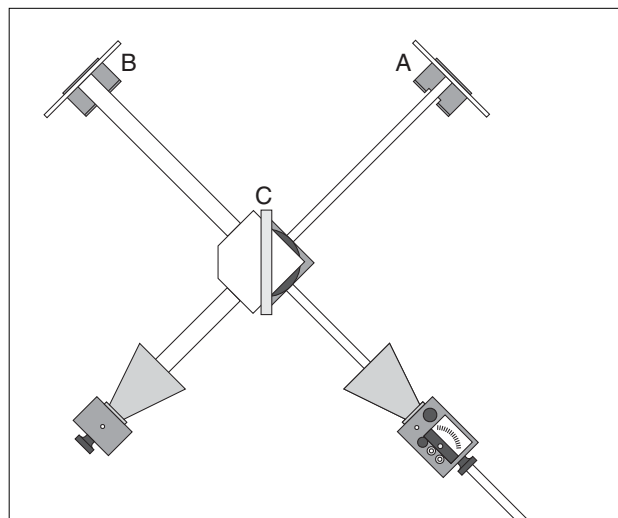

Figure 9.1 Michelson Interferometer
Like the Fabry-Perot interferometer, the Michelson interferometer splits a single wave, then brings the constituent waves back together so that they superpose, forming an interference pattern. Figure 9.1 shows the setup for the Michelson interferometer. **A** and **B** are Reflectors and **C** is a Partial Reflector. Microwaves travel from the Transmitter to the Receiver over two different paths. In one path, the wave passes directly through **C**, reflects back to **C** from **A**, and then is reflected from **C** into the Receiver. In the other path, the wave reflects from **C** into **B**, and then back through **C** into the Receiver.
- ① Arrange the equipment as shown in Figure 9.1. Plug in the Transmitter and adjust the Receiver for an easily readable signal.
- ② Slide Reflector **A** along the Goniometer arm and observe the relative maxima and minima of the meter deflections.
- ③ Set Reflector **A** to a position which produces a maximum meter reading. Record,  $x_1$ , the position of the Reflector on the Goniometer arm.